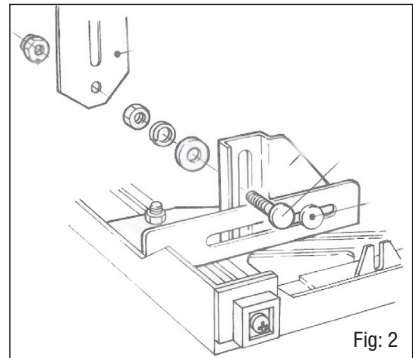

Fig: 2
1. Loosely attach the Pivot Mounting Bracket (B) to the Base Bracket (A) using the remaining  $\frac{1}{4}$ " x  $\frac{1}{2}$ " Coach Bolt (I), a Spring Washer (K) and a  $\frac{1}{4}$ " Nut (J). Again, finger tighten only.
**NOTE:** Fig 2 shows the way in which the bracket is attached, but the exact position of the bracket is determined in the next steps.
2. Loosely fit the pivot bolt assembly - consisting of a  $\frac{1}{4}$ " x  $\frac{3}{4}$ " Coach Bolt (H), the  $\frac{3}{4}$ " x  $5/16$ " Flat Washer (M), Spring Washer (K) and  $\frac{1}{4}$ " Nut (J) - into the slot of the Pivot Mounting Bracket (B) as shown in Fig 2.
**NOTE:** Do not yet fit Slotted Strap (C) and Nyloc Nut (L) shown in Fig 2.
- When the pivot bolt has been located correctly, firmly tighten the nut, and also the nut fastening the Pivot Mounting Bracket (B) to the Base Bracket (A).
**NOTE:** If you have a vertical lift saw, this lining up procedure is unnecessary. Simply locate the pivot bolt low in its slot so that it will not foul the T-Knob (G) to be fitted later.
- Fit the Slotted Strap (C) onto the pivot bolt, using the  $\frac{1}{4}$ " Nyloc Nut (L), as shown in Fig 2. Tighten the nut so that the strap is firmly attached but still free to pivot.